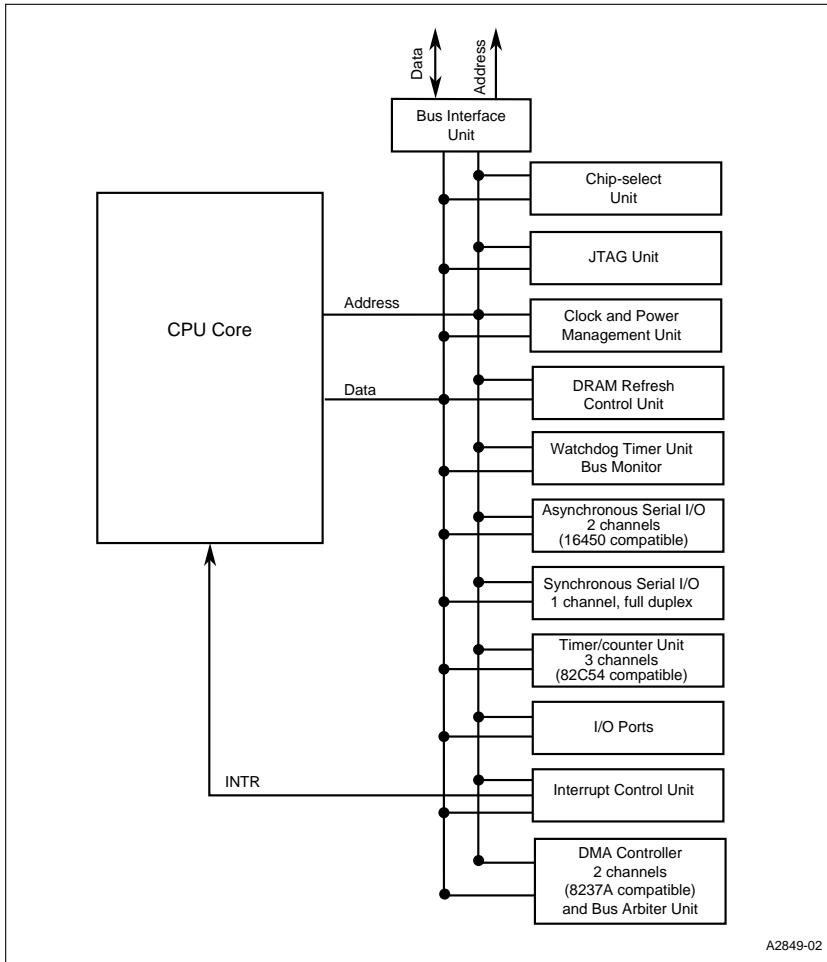

Figure 1. Intel386™ EX Embedded Processor Block Diagram
- Figure 1. Intel386™ EX Embedded Processor Block Diagram 1